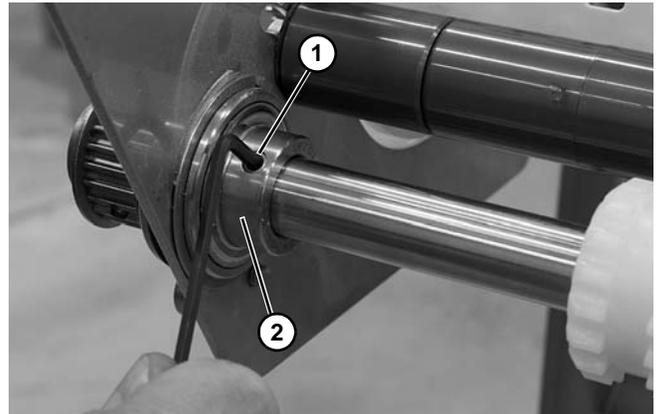

Figure 70
5. Tighten two set screws (**Figure 70, item 1**) on bearing (**Figure 70, item 2**) on both sides of the power transfer.